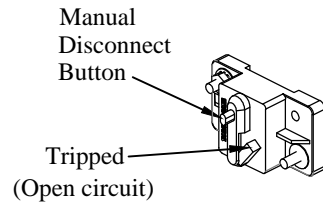

Figure 3: Manually trip circuit breaker.
3. **Disconnect** the 4 GA. power cable from the positive side of the battery (Customer Connection Point on the driver seat pedestal on some Ford Transit vans) or manually **Trip** the circuit breaker (Figure 3).
5. **Disconnect** the 4 GA power cable from the positive side of the battery (Customer Connection Point on the driver seat pedestal on some Ford Transit vans) or manually **Trip** the circuit breaker (Figure 3).